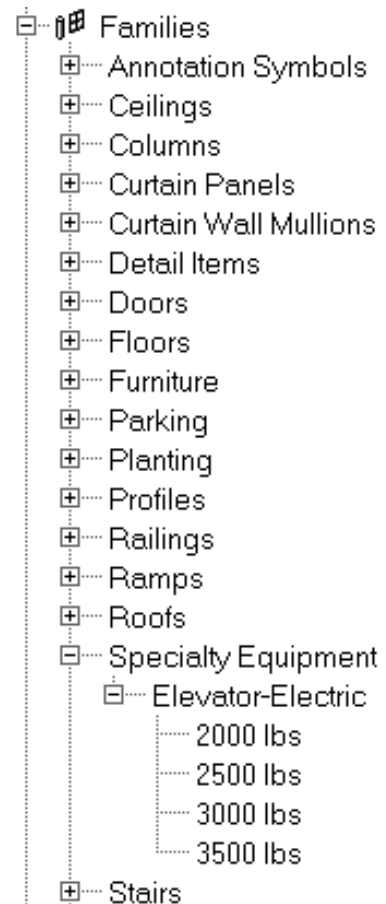

Figure 3-4.5b Elevator library:
11. In the *Project Browser*, click the plus next to Families to expand the list (Figure 3-4.5b).
12. Expand the **Specialty Equipment** list, and then **Elevator-Electric**. (Figure 3-4.5b)